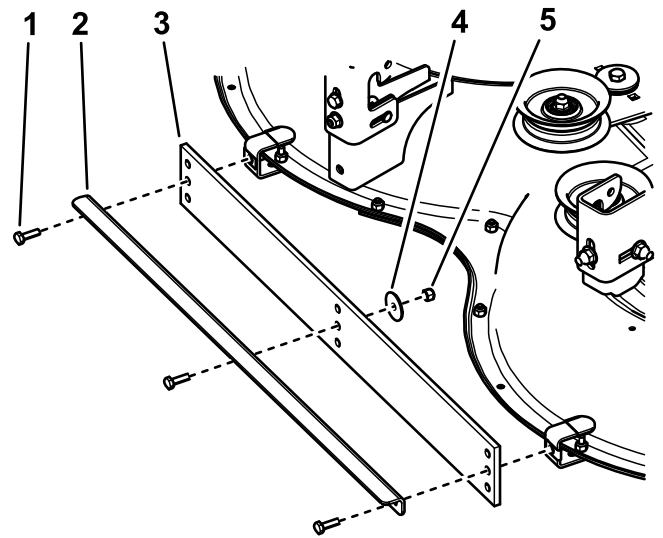

Figure 3
5. Secure the center of the brace to the wiper using a bolt, washer, and nut (Figure 3).
1. Bolt (3)
6. Install the wiper and brace to the brackets using 2 bolts (Figure 3).